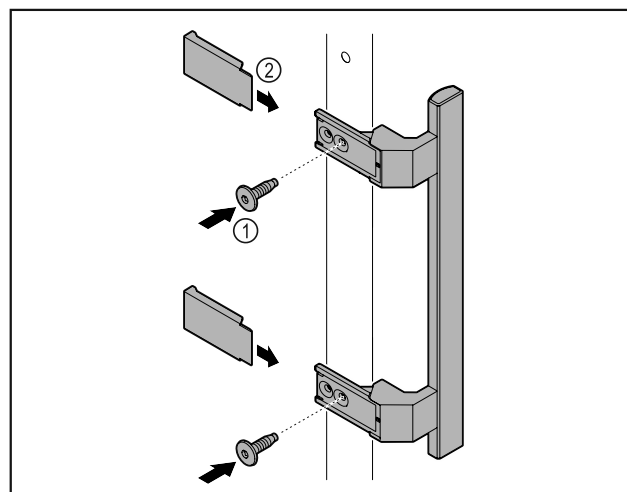

Fig. 8
- Attach handle from accessory kit to the door using the screws Fig. 8 (1) supplied.
- Put on cover Fig. 8 (2).